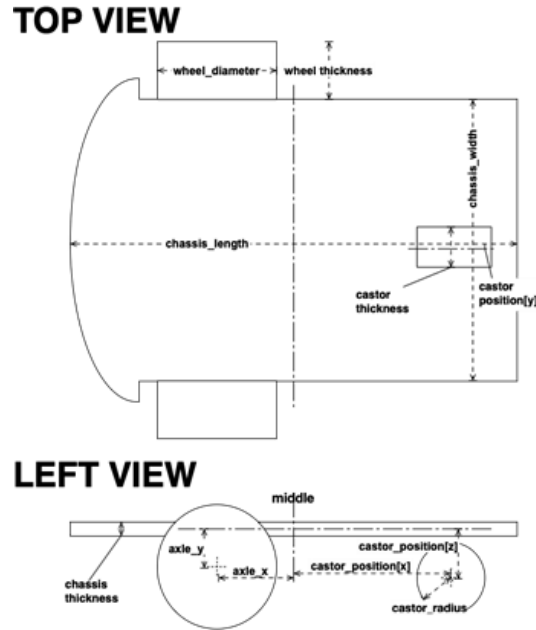

Figure 16.1 – Measurements for the virtual robot
Figure 16.1 shows the measurements across the robot. A top view and a left view show to cover the different aspects. This includes the width and height of the base—note that we are treating it as a rectangle for this purpose. The wheels' size and position, along with the castor-wheel size and position, are needed. Measure or guess these for your robot. For our purposes, guesses are good enough. Positions come from the middle of the chassis.
3. We put the robot's measurements from *Figure 16.1* in variables. I've used **millimeters (mm)** for all of them. The code is shown in the following snippet: